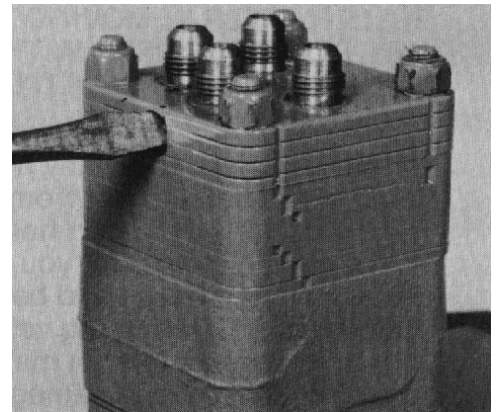

Figure 27
2. Use a slot type screwdriver or screwdriver socket to loosen the plug assembly one turn counterclockwise. (Fig. 27). Do not remove the plug assembly.